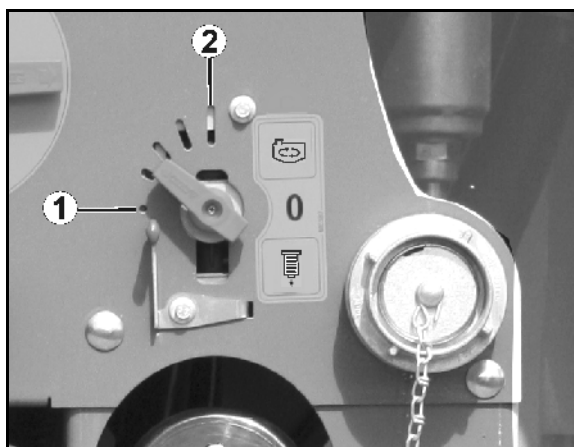

Fig. 38
When switched on, the agitator stirs the spray liquid in the spray liquid tank, ensuring that the spray liquid is homogenous. The stirring performance can be set at the setting tap (Fig. 38/C).
- Position Fig. 38/1:
- Position Fig. 38/2: